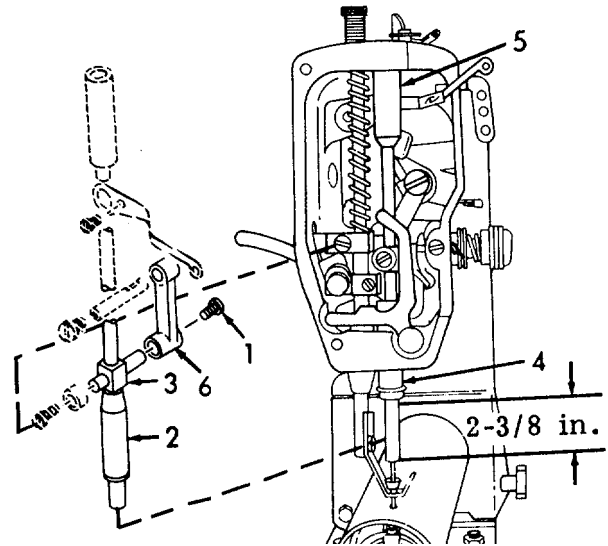

Figure 6-109. Needle Bar Assembly, Installation.
e. *Installation (Refer to Figures 6-109 and 6-110).*
- (1) Refer to Figure 6-109. Slide needle bar (2) through needle bar bottom bushing (4) and then slide needle bar connecting stud assembly (3) over needle bar.
- (2) Slide needle bar up through needle bar upper bushing (5) until 2-3/8 inch (6.03 cm) of needle bar extends below bottom bushing (4) with connecting link (6) in full down position.
- (3) Be sure needle bar connecting stud (3) is seated in connecting link (6) and then tighten setscrew (1). Be sure to maintain 2-3/8 inch (6.03 cm) dimension needle bar extension.